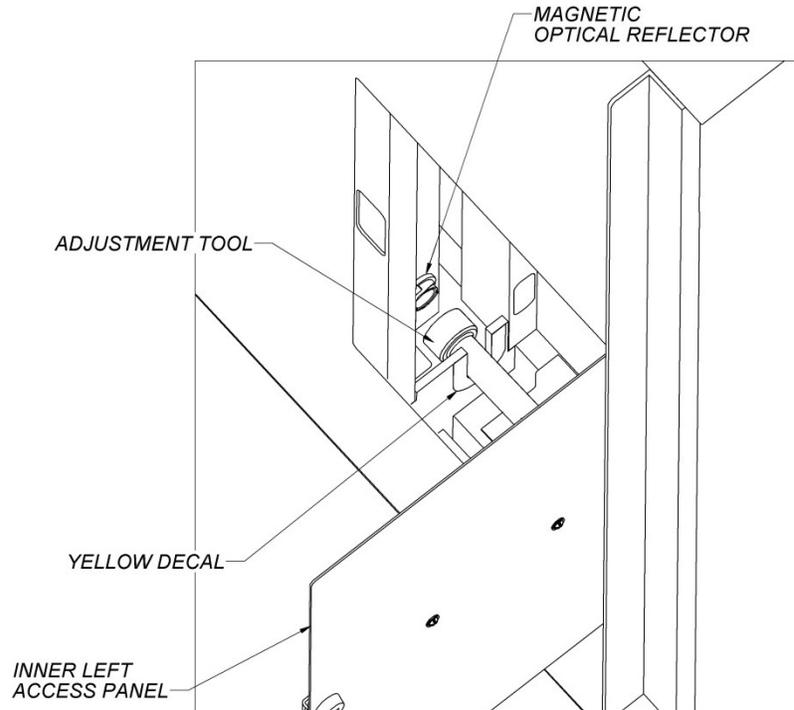

Figure 5
11. With the platform at the correct height, use the height adjustment tool to reattach the reflector to the vertical guide rail. Rest the adjustment tool in the u-shaped bracket marked by the yellow decal then slide it forward until the magnet on the reflector engages the vertical guide rail. See Figure 5. Twist the adjustment tool a quarter turn counterclockwise to disengage it from the reflector after it is placed. You should see a red dot at the bottom edge of the reflector.